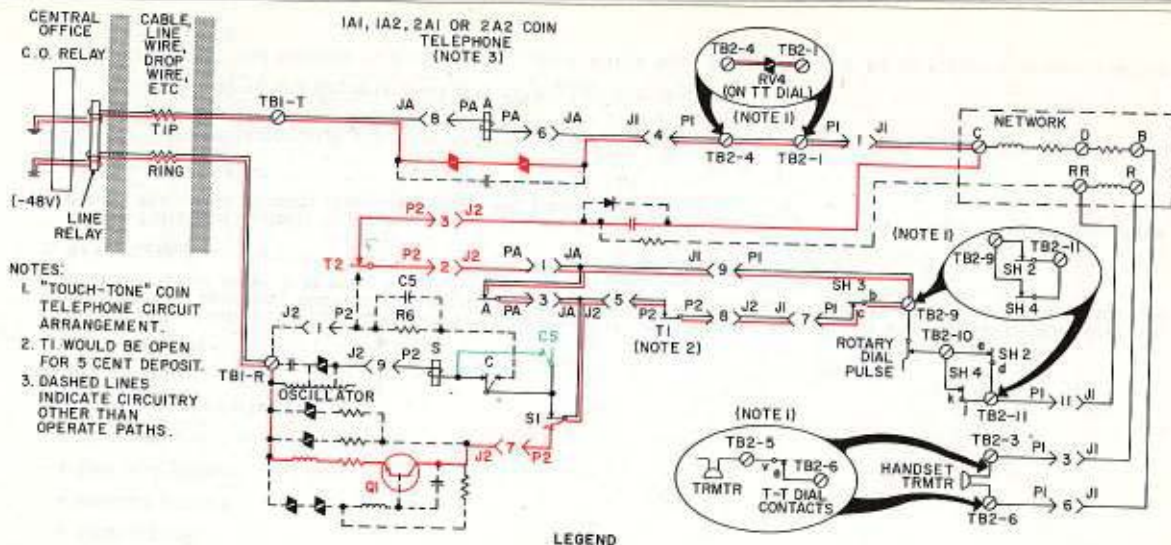

Fig. 22 — Coin Signal Tone Circuit
- Fig. 22 — Coin Signal Tone Circuit.
LEGEND FOR FIG. 22